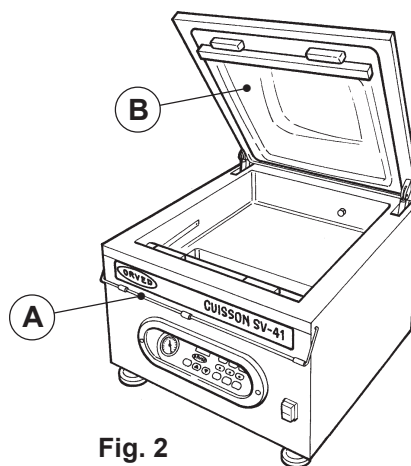
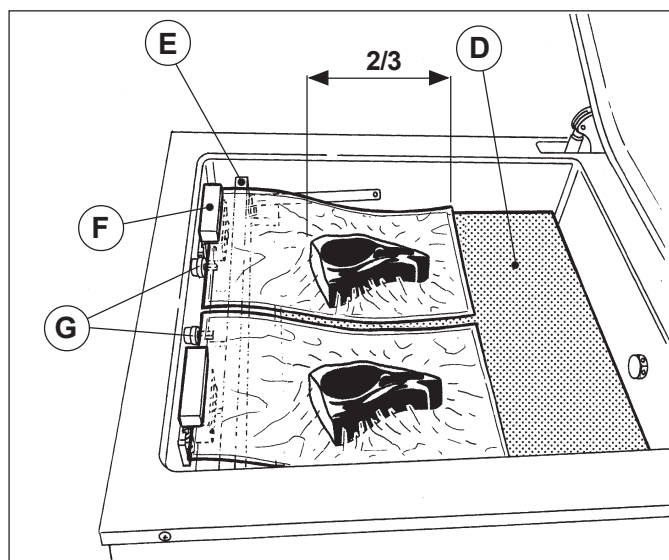
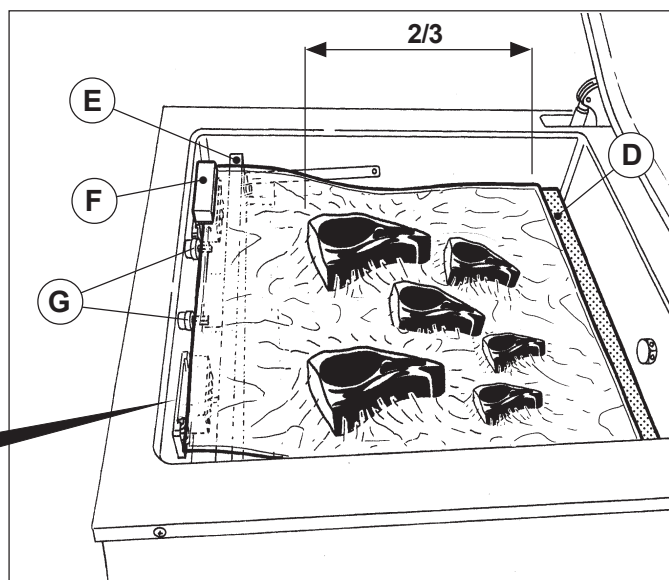

Fig. 2
Fig. 3
Fig. 4
- 1) Lower the lid securing device (A - Fig. 2): the cave's Plexiglas lid (B) opens.
- 2) Place all the shelves in the vertical compartment (C) and position the maximum number of shelves (D) that the chamber can hold in relation to the product to be packaged.
- 3) Select a bag which is suitable for the product to be packaged (the product must fill approximately 2/3 of the bag's serviceable volume). Place the bag containing the product to be packaged inside the vacuum chamber, ensuring it is lying over the sealing bar (E) and the dater stamp (F). If the GAS function is activated, ensure that the nozzle (G) is inside the bag. Two bags can be packaged simultaneously (Fig. 3) or one single bag at a time (Fig. 4), in this case, it is recommended to remove the dater which is not being used (Fig. 5).